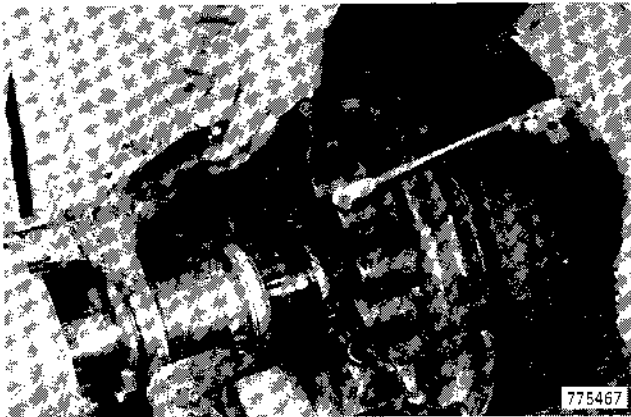

Figure 50
53. Remove the four inner cap screws that hold the front and rear housings together, Figure 50.